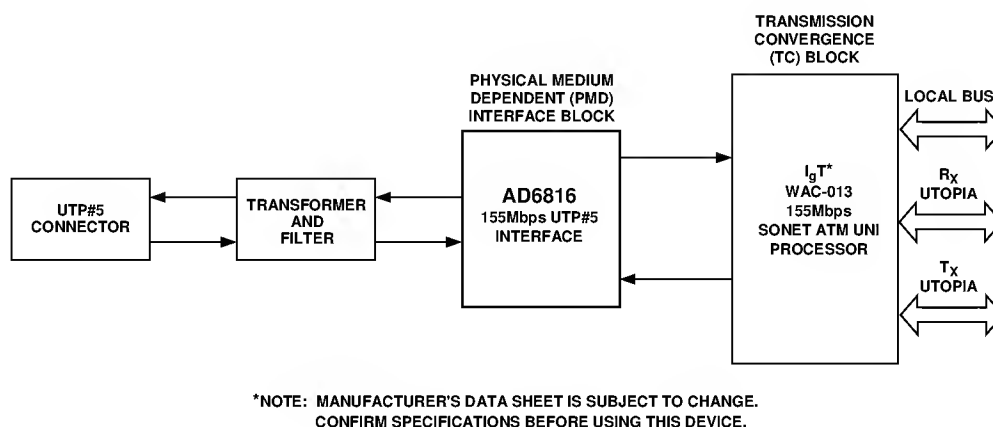

Figure 26. Single Channel ATM PHY Block Diagram (AD6816 with IgT WAC-013)
Figures 26 and 27 show generic block diagrams of the single channel and four channel ATM PHY interface circuit. The ATM PHY interface circuit is made up of a Physical Medium Dependent (PMD) block and a Transmission Convergence (TC) block.